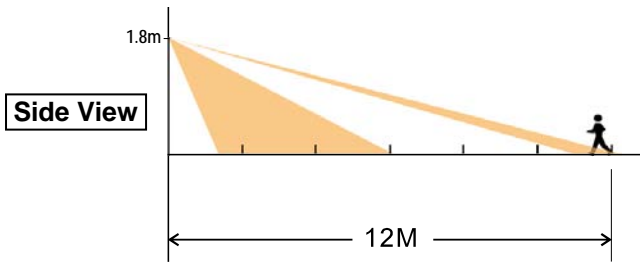

FIGURE 3a
- The recommended position for the motion sensor is on the wall of a room mounted at a height of 1.5~1.8 meters. At this height, the sensor will optimize the detection range of up to 12 meters (straight line) with a field of 160° and 3 meters with a field of 180°. (FIGURE 3a & 3b)